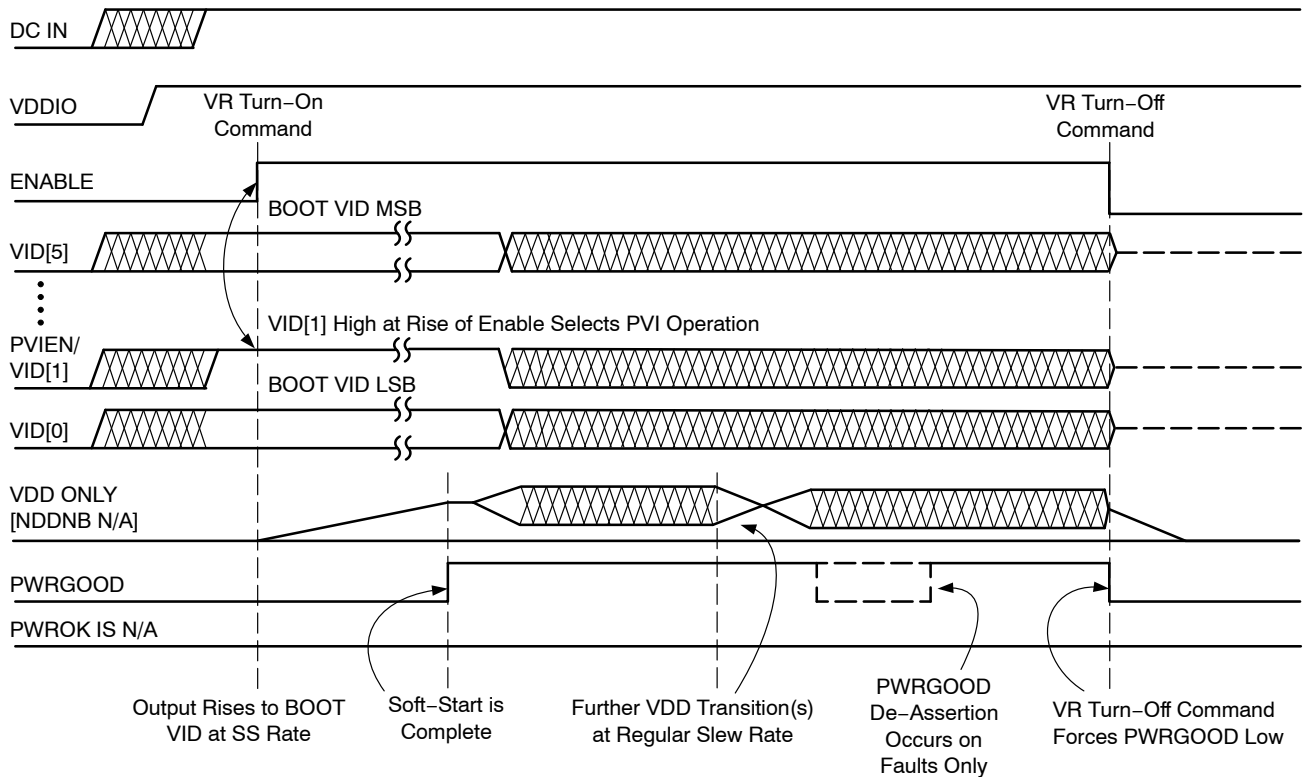

Figure 9. Power Up Sequences in Parallel Mode Operation
PVI is a 6-bit wide parallel interface to address the CORE Section reference. NB is kept in HiZ mode. Parallel mode operation is depicted in Figure 9. Voltage identifications for the 6bit AMD mode is given in Table 2.
- The NCP5393 will accept new VID codes on the parallel VID interface (See Table 2). See Figure 9 for details.